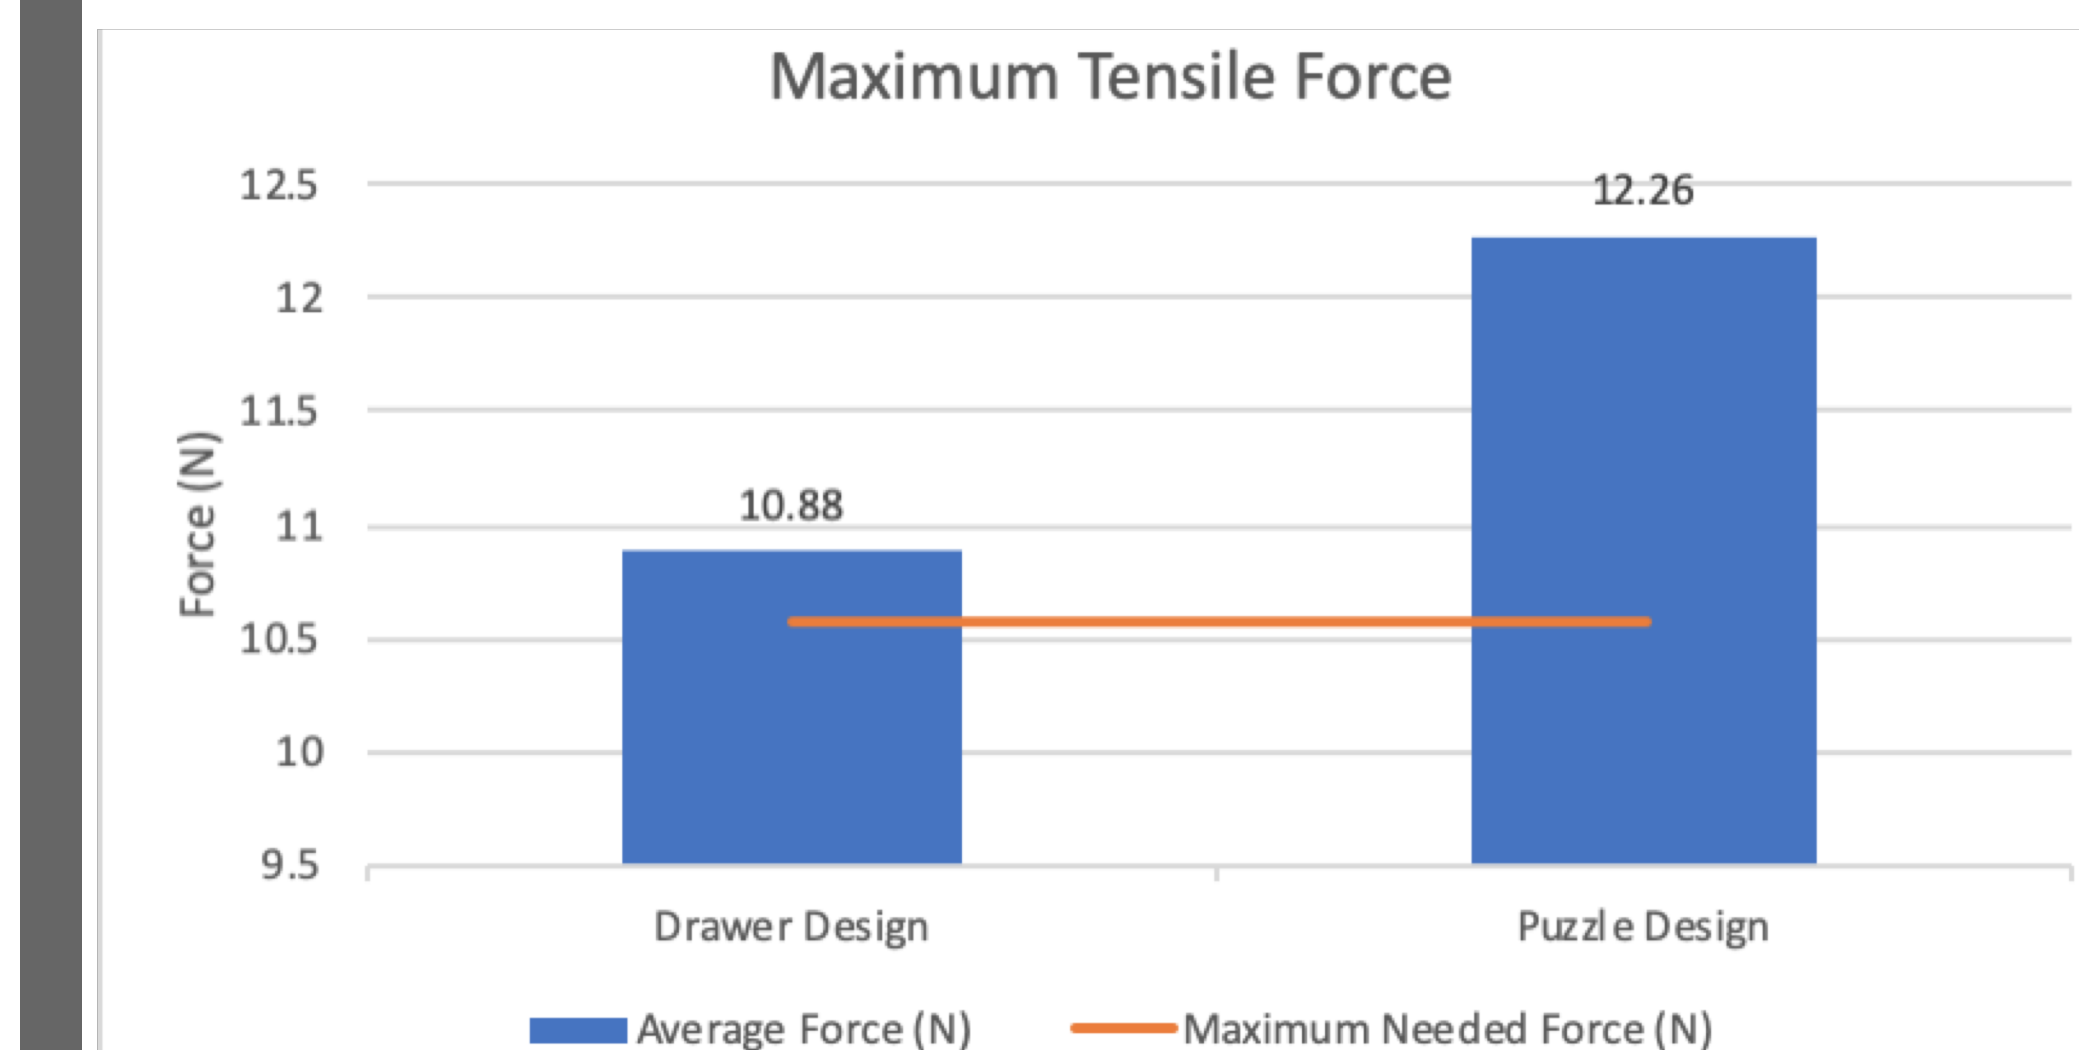

Figure 10: MTS testing results for each prototype averaged over three trials
- Both locking designs withstood threshold axial forces (Fig. 10)